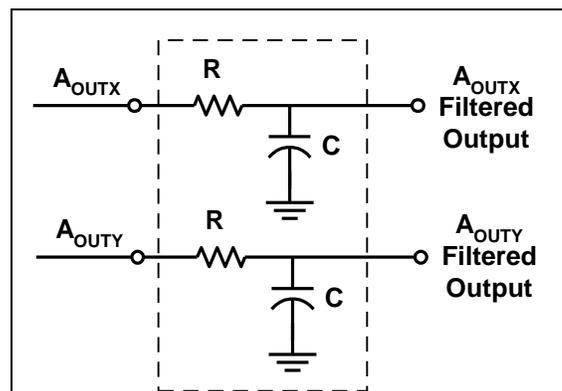

Figure 5: Low Pass Filter
**Low Pass Filter:** An external low pass filter is useful in low frequency applications such as tilt or inclination. The low pass filter limits the noise floor and improves the resolution of the accelerometer. The low pass filter shown in Figure 5 has a -3dB breakpoint given by the equation: